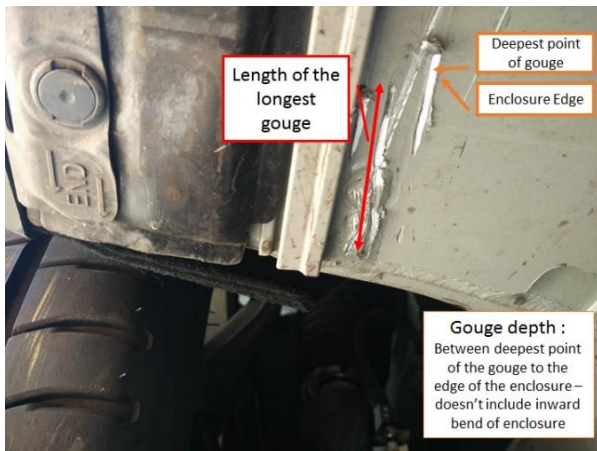

Figure 14 – Debur area to remove sharp edges
- Deburr the area with a hand deburring tool to remove the sharp edges if sharp edges are found (Figure 14).